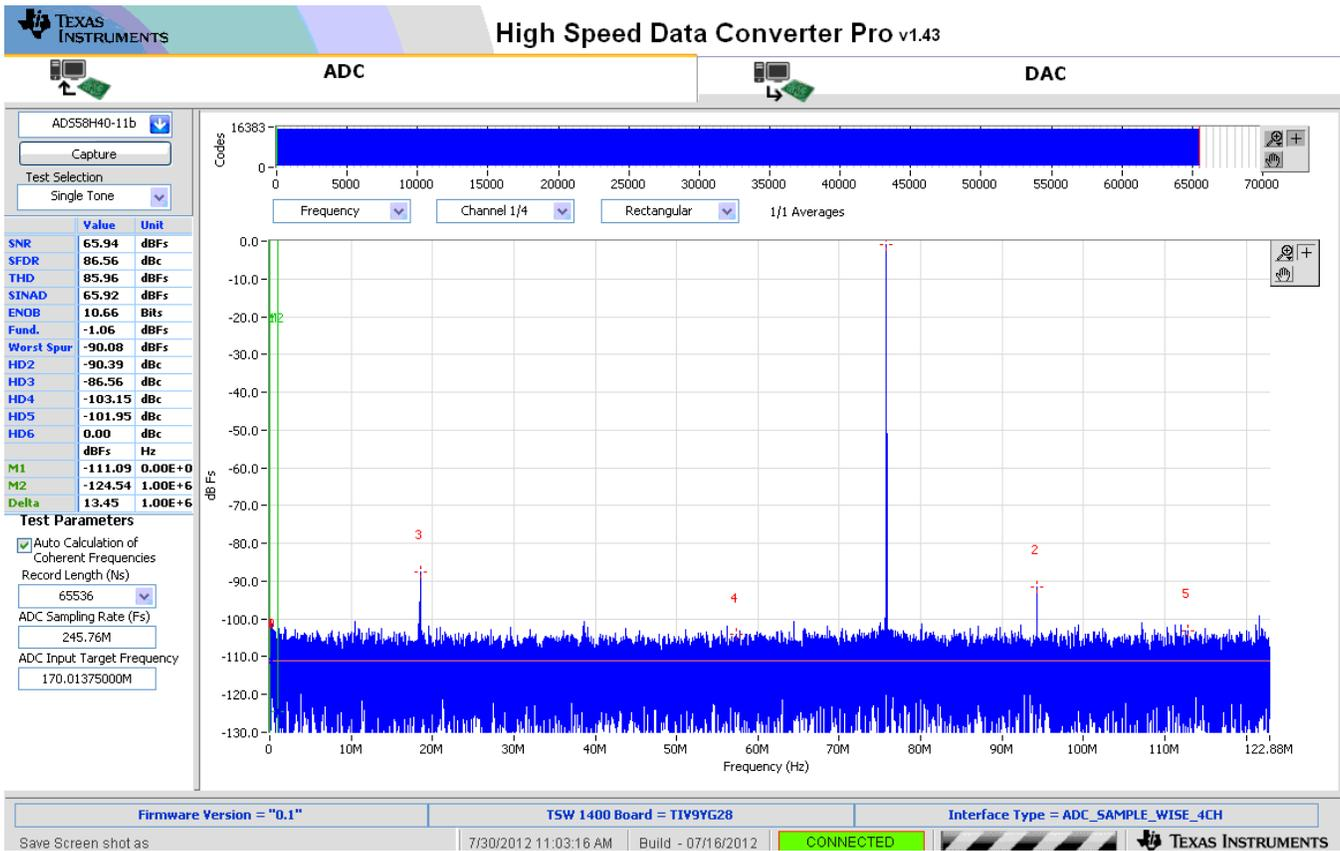

Figure 11. ADS58H4x 11-bit Operating Mode, Single Tone Test Result: $F_s = 245.76$ MSPS, $F_{in} = 170$ MHz
- Select the number of sample points (and resulting number of FFT bins). The example shown in Figure 11 has 65536 samples.
- Enter the ADS58H4x sampling rate. The example shown in Figure 11 has the sample rate set at 245.76 MSPS.
- Enter the input frequency desired. If the clock and input frequency signal generators are synchronized, then make sure the checkbox for coherent frequency is checked and set the input frequency signal generator to the input frequency displayed. The example shown in Figure 11 has the input frequency set at 170 MHz.
- Press the **Capture** button on the High Speed Data Converter Pro GUI. Observe an FFT result similar to that of Figure 11.